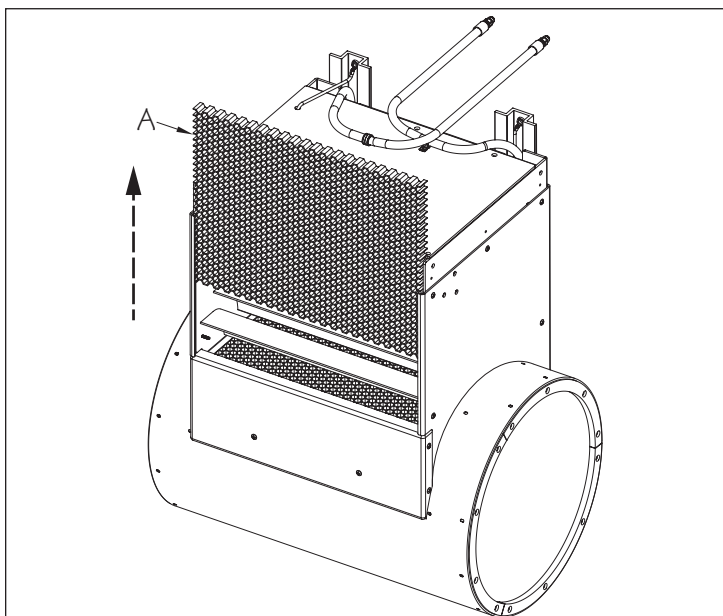

Fig. 3
1. Slide the Vertical Grill (A) up and out of the Current Unit (Fig. 3).